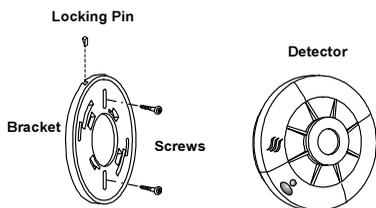

Figure B- 28: Smoke Detector Installation
Read the “Where to Install Your Smoke Detector” and “Where Not to Install Your Smoke Detectors” sections in this Manual before installing. To install the detector, perform the following steps (see Figure B- 28).
2. Remove locking pin securing the mounting bracket to the unit (see Figure B- 28).
6. Using screws (supplied) attach the bracket to the wall as in Figure B- 28.
8. Insert the locking pin in order to secure the mounting bracket to the detector (see Figure B- 28).